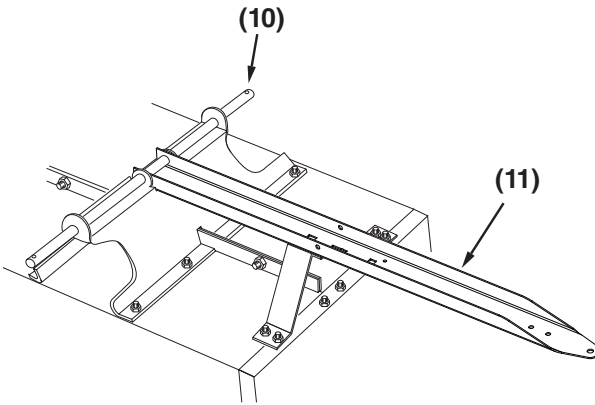

Figure 8
**STEP 8 (SEE FIGURE 8):** Install the axle (10) through the wheel support and tongue (11) as shown below.